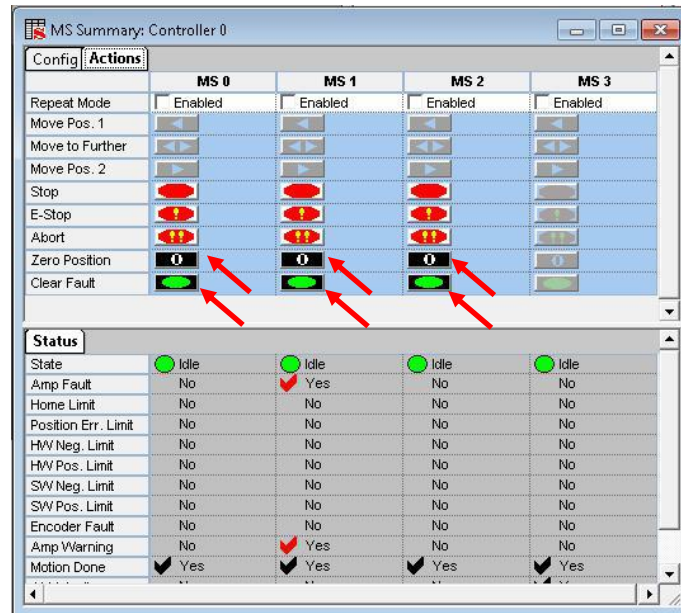

Figure 16 MS Summary
15. Slowly rotate the Y-Axis coupling until status become “Low” at indicated at the “Home Sensor” as shown in Figure 16.